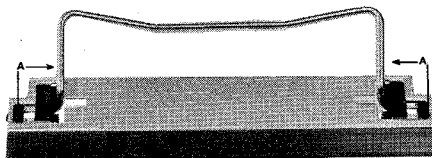

Fig. VIII-1. Tilting assembly
- Move the small outermost nylon slides "A" inward (Fig. VIII-1).